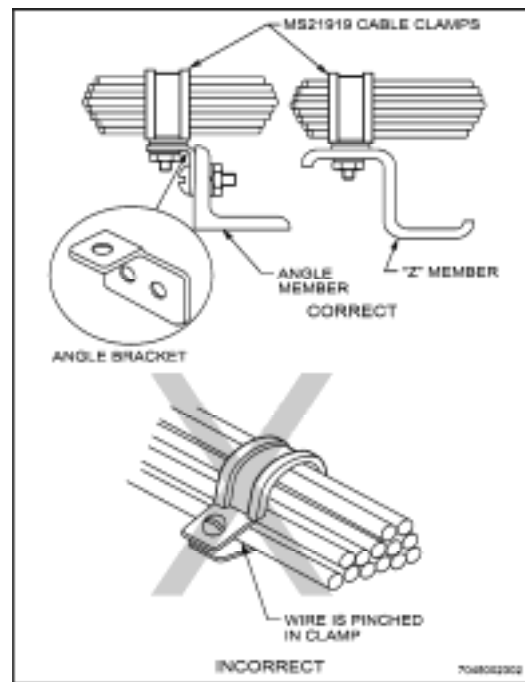

Figure 4-12 Attaching Cable Clamp to Structure
55. Mount cable clamps directly to “Z” members of structure. Use angle bracket with two mounting screws if structural member is angled as shown in Figure 4-12.